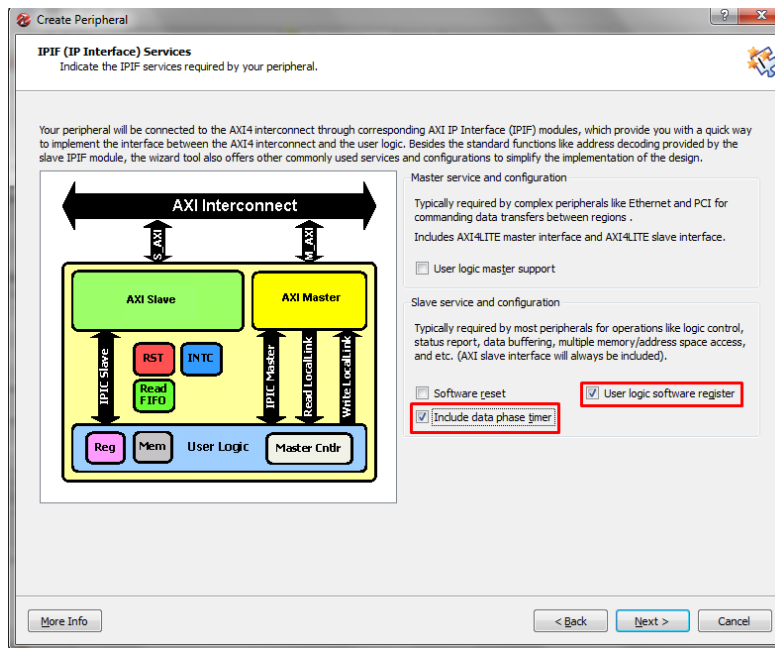

Figure 23: IP interface configuration
- Second section provides slave service and configuration which suits the project needs. It provides three options, software reset, user logic software register and include data phase timer. This options can be selected for different needs. User logic software register and include data phase timer is selected for current project as shown in Figure 23. Next is clicked for further steps.